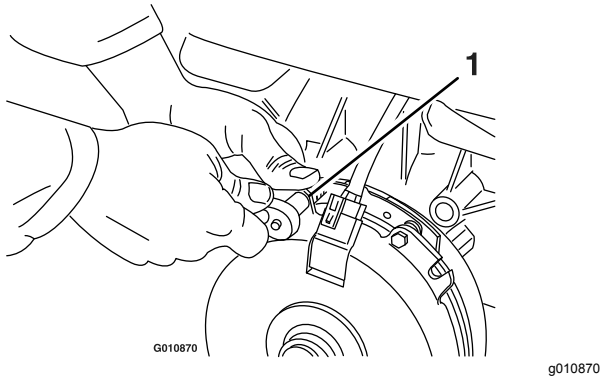

Figure 59
- A. Loosen both brake mounting bolts 1/2 to 1 full turn as shown in Figure 59.